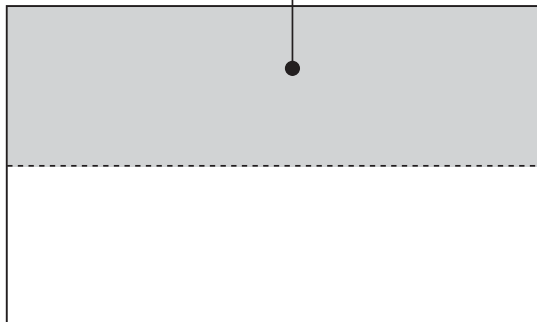

Fig.3
| COMPONENT INPUT A-D CONVERTER GAIN | Remote control unit | | [8.PP] ADM010: (NO DISPLAY) (G GAIN) | (1) Input 525i 100% all-white signal into a component input terminal. (2) Set "VIDEO STATUS" to STANDARD. (3) Set "ASPECT" to FULL. (4) Select "COLOR TEMPERATURE" to LOW. (5) Select "1.PICTURE/SOUND" from the SERVICE MODE. (6) Set < F44 > (Picture control) to "001" and < F45 > (Picture control mode sw) to "000" to set Y ADJUST MAX MODE. (7) Set < F46 > (Output level upon detection), < F47 > (Minimum value upon detection), and < F48 > (Maximum value upon detection) to values as shown in the left table. (8) Press the [MUTING] key to memoirize the set value. (9) Select "8.PP" from the SERVICE MODE. (10) Adjust < ADM010 > (G GAIN) to set the upper half of the screen to maximum brightness. (Fig.3) (11) Press the [MUTING] key to memoirize the set value. (12) Check the black level. Perform the "BLACK LEVEL Adjustment" again if the adjusted value is not proper. (13) Select "1.PICTURE/SOUND" from the SERVICE MODE. (14) Set < F44 > (Picture control) to "000" to cancel Y ADJUST MAX MODE. (15) Press the [MUTING] key to memoirize the set value. (16) Input 1125i signal. (17) Repeat steps (5) to (15) above. |